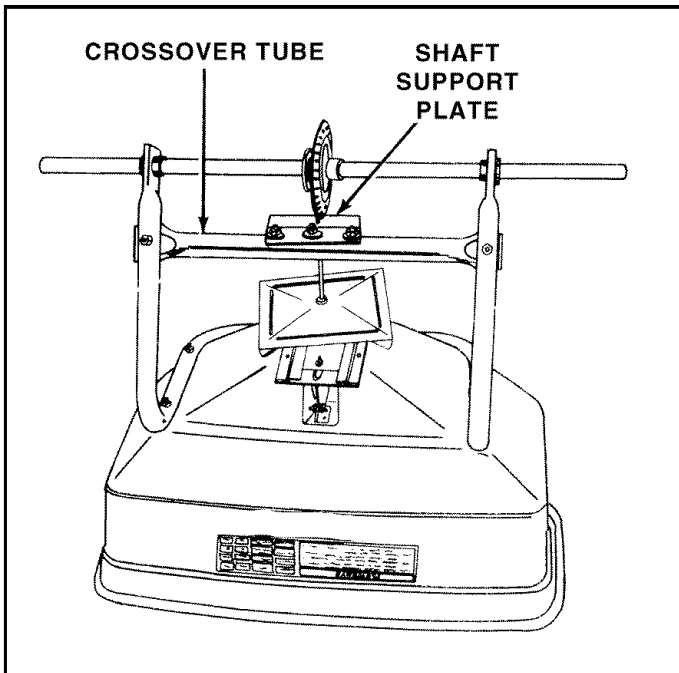

FIGURE 1
- Turn the spreader upside down as shown in figure 1.